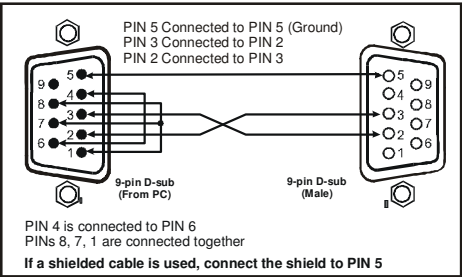

Figure 7: Connecting a VP-108 Unit to a PC without using a Null-modem Adapter
- Connect the RS-232 9-pin D-sub port on your PC to the RS-232 9-pin D-sub rear panel port on the **VP-108** unit, as Figure 7 illustrates